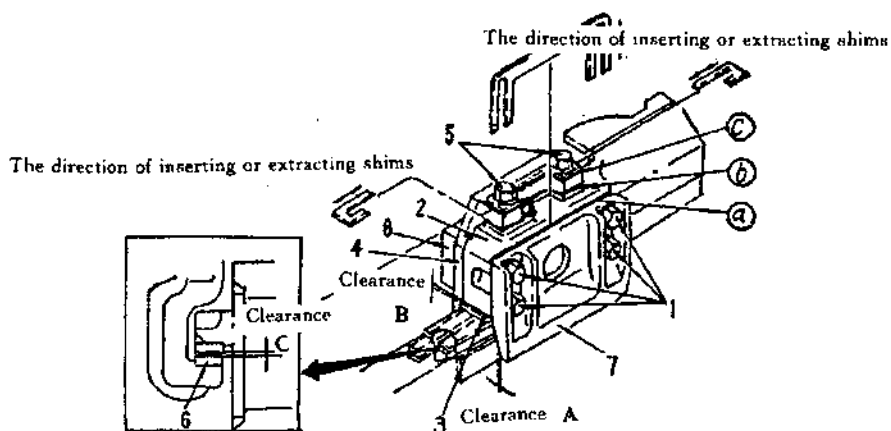

Fig. 5-27
5. 5. 2 Adjustment of clearance of idler. As shown in Fig. 5-27.